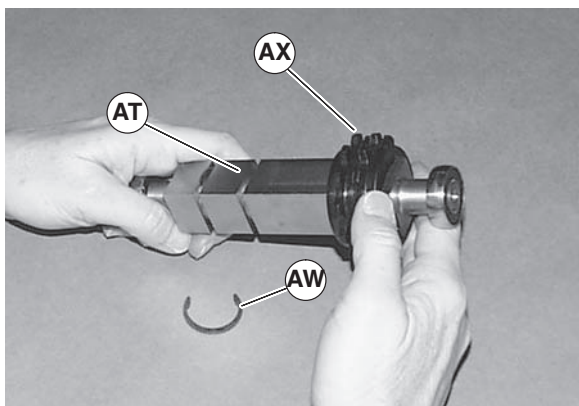

Figure 42
- Install drive sprocket (Figure 42, item AX) with snap rings (AW) to pulley (AT).